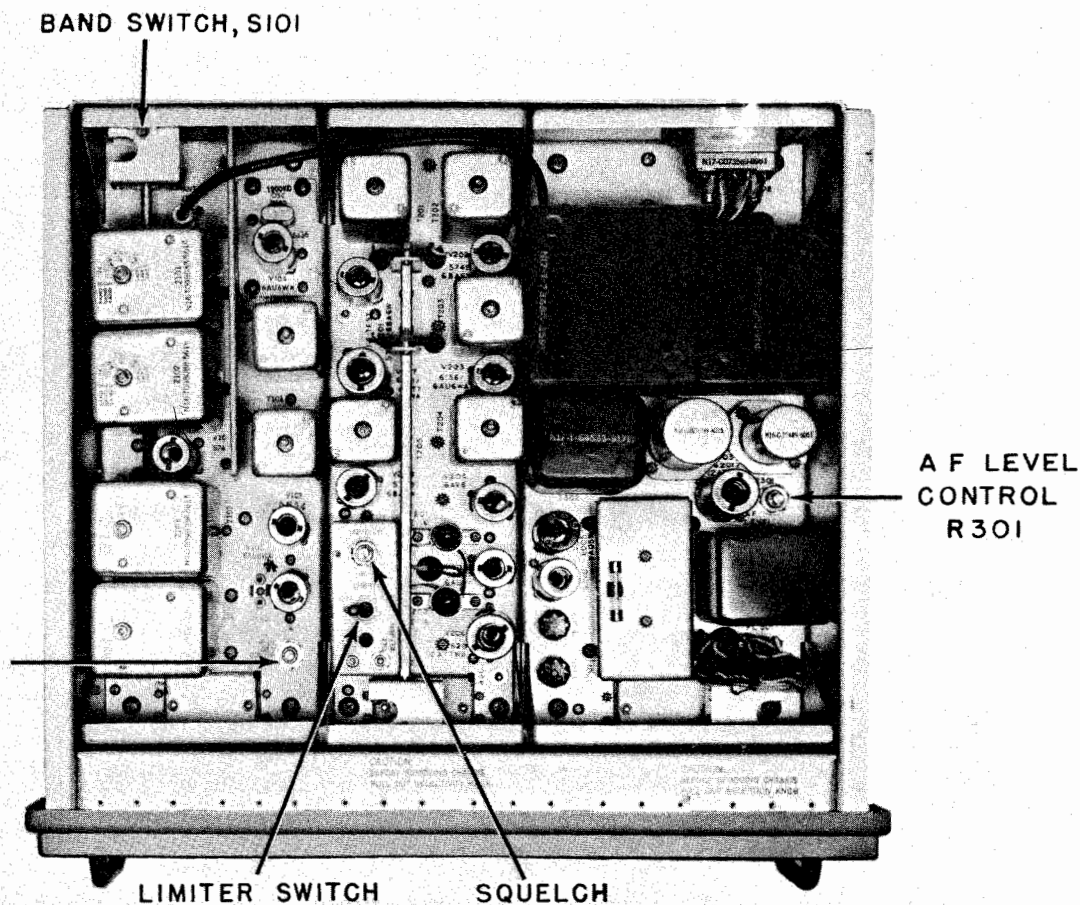

Figure 4-3. Top View of Receiver Set out of Case, Showing Chassis Controls
b. **CHASSIS CONTROLS.**—These controls, located on the RF, IF and Audio/Power Supply chassis as indicated in Figure 4-3 permit adjustment of various receiver functions and should not require readjustment after the initial installation, unless a change in operating conditions is required. These changes should be performed only by qualified personnel.